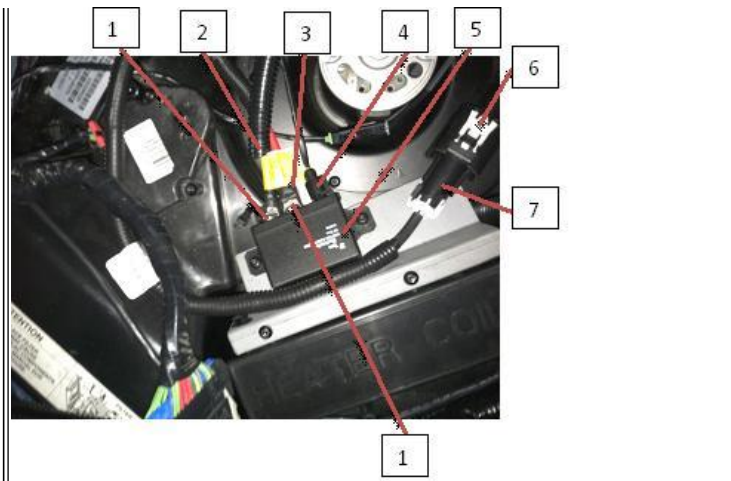

Figure 13: Relay Assembly Harness Connections.
- Item 1: Nut (2)
36. Install Black wire ring terminal of power harness (Figure 13, Item 2) on left post of relay assembly (Figure 13, Item 5) with new nut (Figure 13, Item 1).
37. Using torque wrench, tighten nut (Figure 13, Item 1) to 41 lb-in (5 N•m).
38. Route ground cable connector (Figure 13, Item 7) around relay assembly (Figure 13, Item 5), secure into relay assembly, and push fir tree into relay assembly.
40. Install Red wire ring terminal of power harness (Figure 13, Item 3) onto middle post of relay assembly (Figure 13, Item 5) with new nut (Figure 13, Item 1).
41. Using torque wrench, tighten nut (Figure 13, Item 1) to 41 lb-in (5 N•m).
42. Connect ground side of power harness (Figure 13, Item 6) to ground cable connector (Figure 13, Item 7).
43. Connect relay control harness connector (Figure 13, Item 4) to relay assembly (Figure 13, Item 5).